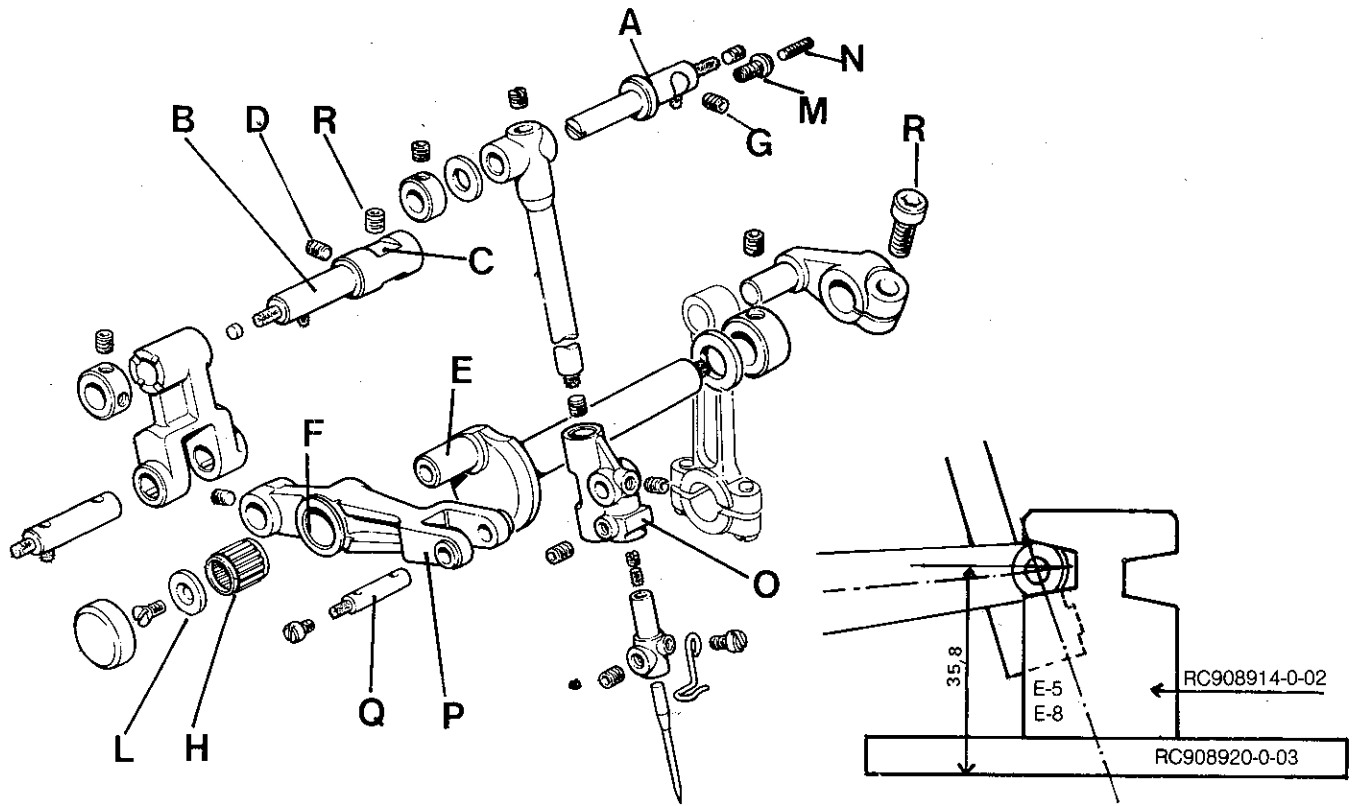
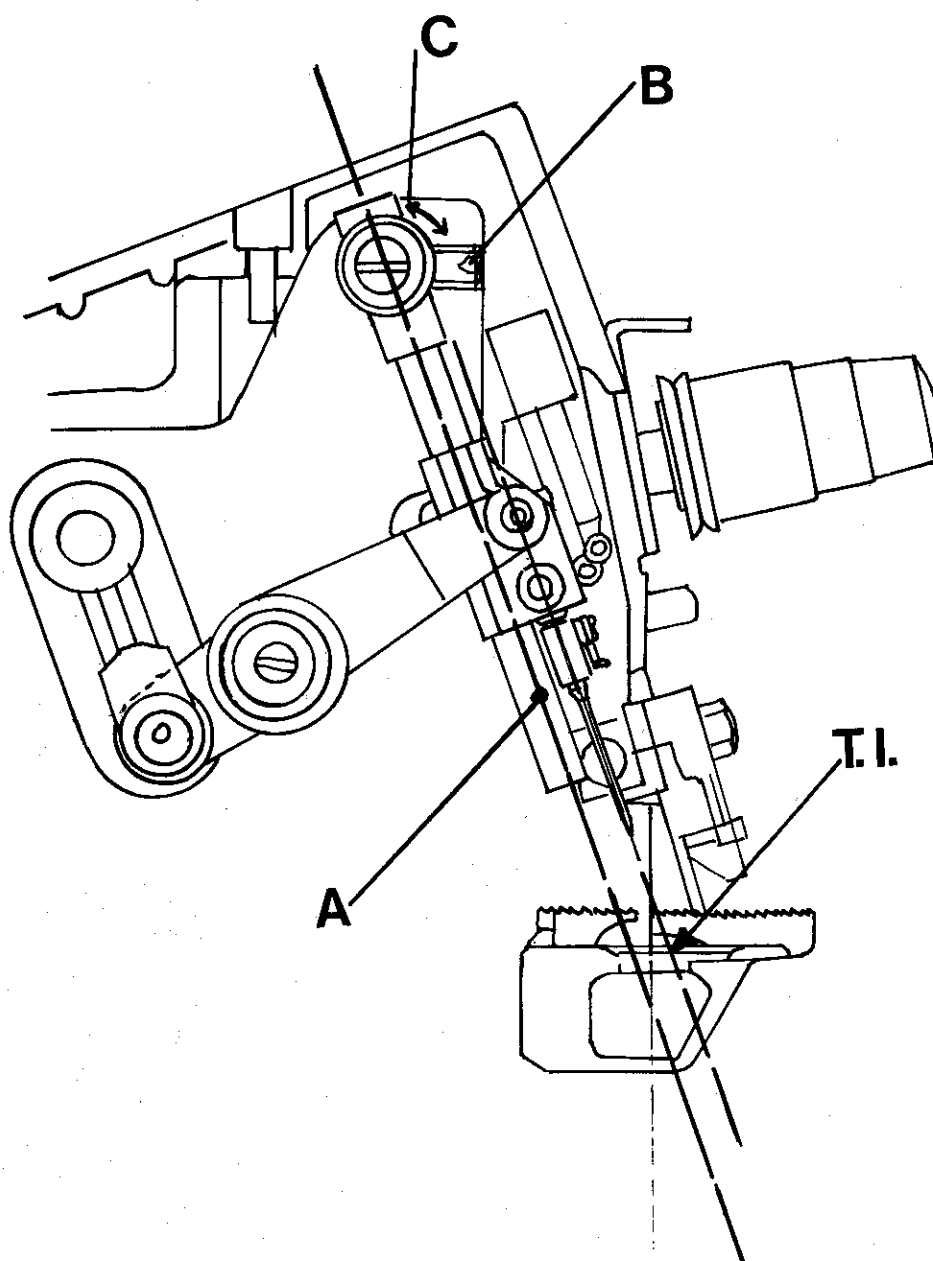

fig.2
fig.4
INSTRUCTIONS FOR SETTING ON AND ADJUSTING THE NEEDLE CONTROL MECHANISM (fig. 2)
- Arrange the needle control mechanism assembly (fig. 2) with pins A and B positioned as follows:
- b) calibrator support pin B with plane C corresponding to screw D (fig. 2).
- Set pins A and B in their respective holes on the machine head, taking care to insert the button of hand control E (fig. 2) at the same time in the hole in lever F. When inserting calibrator pin B (fig. 2), lubricator wick A (fig. 3) must be pulled from the end inside the machine so that the other end is embedded in the spot-facing, pressing spring B (fig. 3) and thus permitting said pin to pass. Releasing wick A (fig. 3) spring B (fig. 3) extends, giving reliable lubrication contact between wicks A and C inside the pin.
- Center locking screws R - G (fig. 2) of the two pins and insert roller retainer H, taking care to choose the correct tolerance value, which should be that indicated on washer L (fig. 2).
- Tighten screw M (fig. 2) until it is right down on needle bar eccentric support pin A (fig. 2)
- Set the needle clamp slider to the correct height. When the slider is brought to its lowest position there must be a distance of 35.8 mm. (1.13/32") between the axis of pin Q (fig. 2) and the surface of plate RC908920-0-03 (fig. 2-inset). Adjustment is made by turning screw R (fig. 2).
Gauge RC908914-0-02 and plate RC908920-0-03 are used as shown in fig. 2 — inset, are a help in obtaining easy and accurate adjustment.
- Center the needle in the needle plate hole. The operation is made accurate and easy by screw M (fig. 2) which, being right up against the pin, offers the possibility of moving it just by screwing.
- Block screw M by fully tightening grub screw N (fig. 2)
- Center the needle clamp slider O (fig. 2) in the fork of lever P (fig. 2), dividing play equally, by moving pin B (fig. 2).
- Tighten locking screws D — R (fig. 2).
NEEDLE BAR ALIGNMENT (Fig. 4)
For aligning needle bar A (fig.4) to the needle movement trajectory T.I. (fig.4) special gauge (RC908920-0-03/RC979550-1-00) with dial comparator A (fig.5) is used, point B (fig.5) of which is positioned on the special extension C (fig.5) screwed to the bottom of the needle bar (see illustration). When the needle clamp slider moves from the bottom dead center point to the top dead center point or viceversa, there should be the least possible
Adjusting and checking is done by turning eccentric pin C (fig.4) in one direction or the other. After making sure that C is right up against screw M (fig.2), lock the pin with its screw B (fig.4).